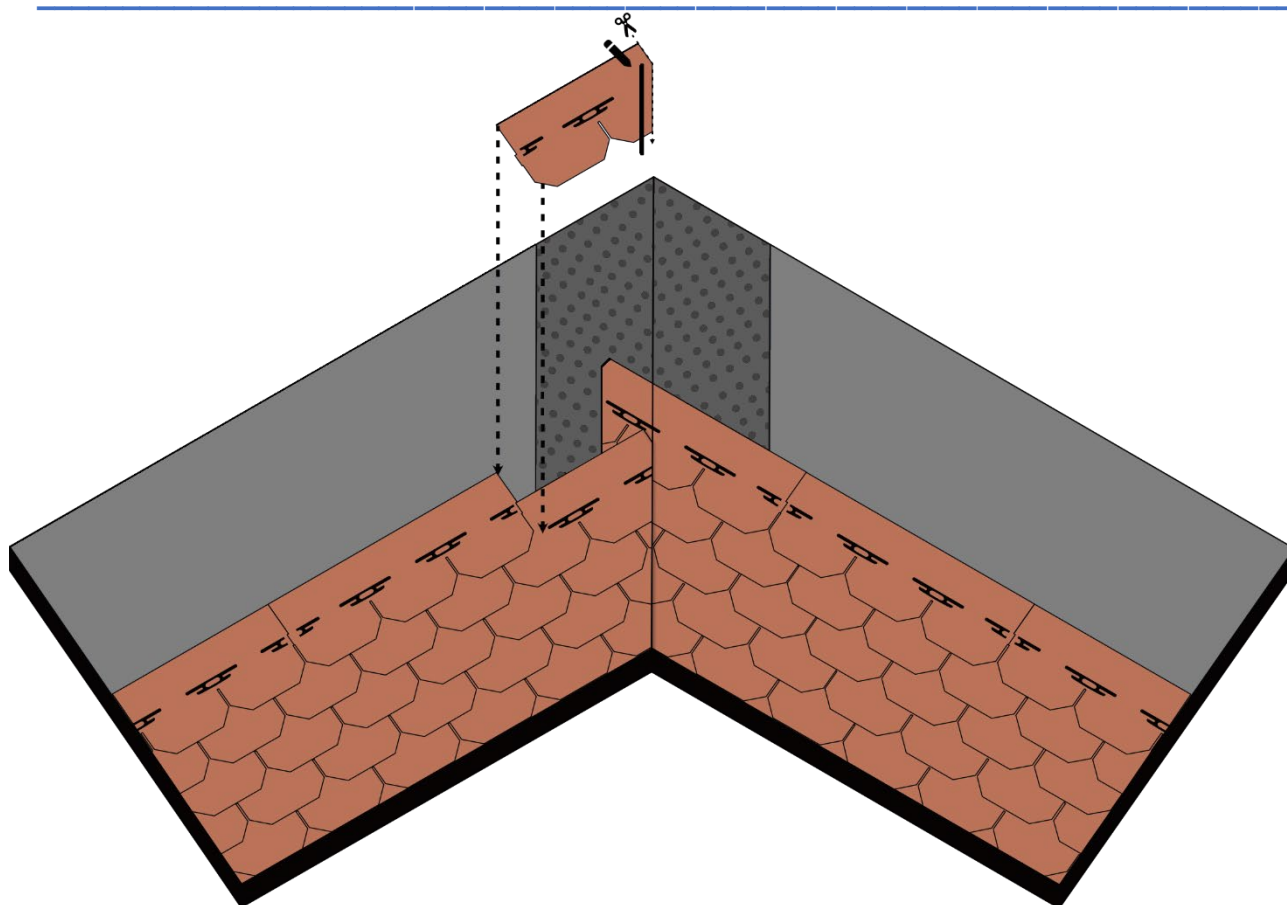

Fig. 21 – Shingles installation by torch at the valley
- Cross-cut the top edge of the shingle to the valley, so as to convey the descending water along the axis of the valley. Lift the shingles of the second pitch at the valley line, one at a time and apply Bitustick at the bottom, for their final bonding - Fig. 21.